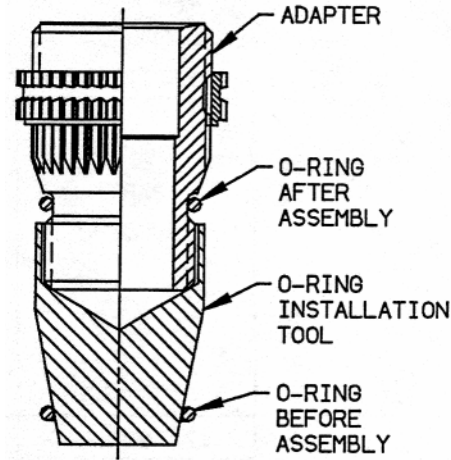

FIGURE 1
2. Place the O-ring installation tool over the port end thread of the adapter. Submerge the tool and O-ring in the fluid to be used in the working system, or a lubricant compatible with the system fluid. Slide the O-ring over the tool and onto the adapter. Insure that the O-ring is not twisted and is properly seated in the groove of the adapter. See Figure 1.